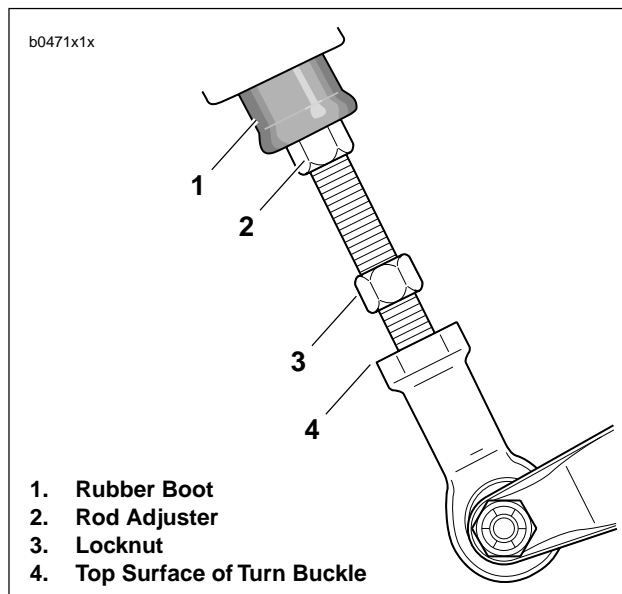

Figure 1-13. Pushrod Adjustment
1. See Figure 1-13. Slide rubber boot (1) upward.
2. Measure distance from bottom edge of rod adjuster (2) to top surface of turn buckle (4).
- a. If measurement approximately 0.84 in. (21.3 mm), slide rubber boot (1) down over assembly. Brake pedal adjustment is not needed.
- a. See Figure 1-13. Loosen locknut (3) while holding rod adjuster. Move locknut away from top surface of turn buckle.
- c. Return locknut (3) to fit flush against top surface of turnbuckle (4).
- d. Slide rubber boot (1) down over rod adjuster (2).